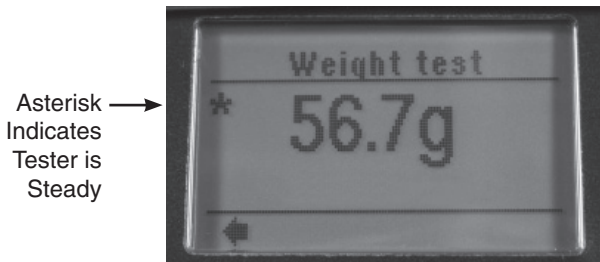

Figure 8. Stability Indicator
4. Place test weight into the test cell when the screen indicates to “PLACE WEIGHT.” Once the weight is placed in unit, wait for reading to display. The asterisk in the upper right hand corner indicates the tester is steady and the weight is then accurate (Figure 8).